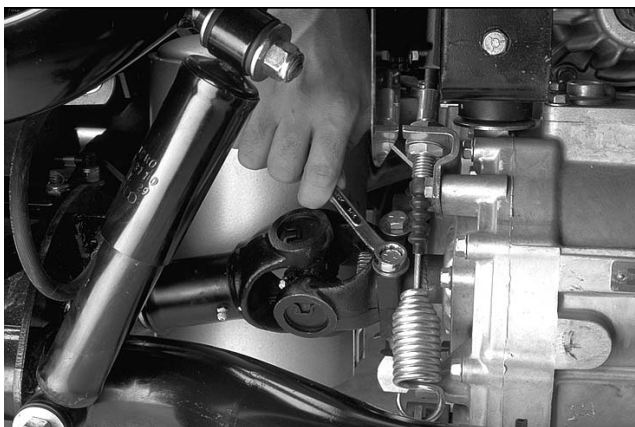

Figure 9
4. Loosen and remove flange nuts, cap screws, and hardened washers securing driveshaft to splined axle shaft of transaxle (Fig. 9).
5. Remove the yoke straps (18) securing driveshaft bearing cross to the end yoke (17), then disconnect driveshaft from the end yoke.
6. Loosen flange nut (1) that secures end yoke to stub axle (5). Remove flange nut and flange head screw (21). Discard flange nut. Pull end yoke from stub axle.
9. Secure drive shaft to transaxle shaft (Fig. 9):